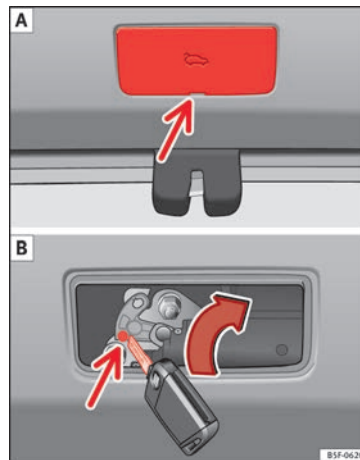

Fig. 7 Luggage compartment: access to manual release.
- Remove the cover by inserting a screwdriver in groove » **Fig. 7 A.**
- Insert the key into the opening and turn it in the direction of the arrow until the latch » **Fig. 7 B** has been released.